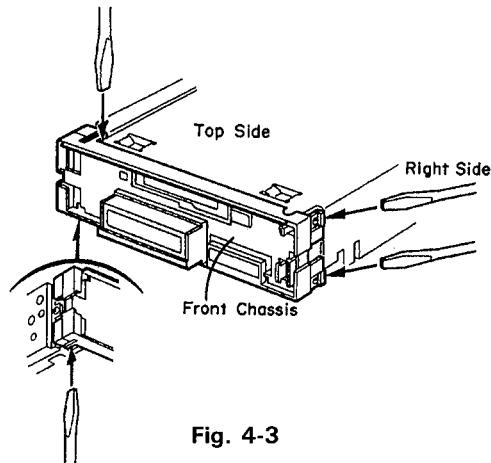

Fig. 4-3
- ◆ Removing the front chassis (See Fig. 4-3)